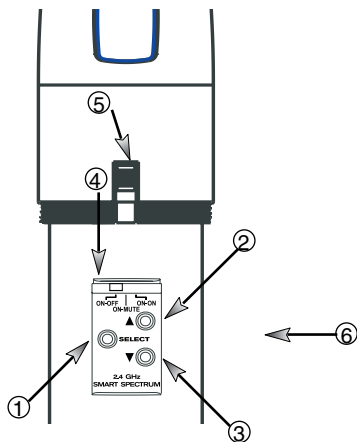
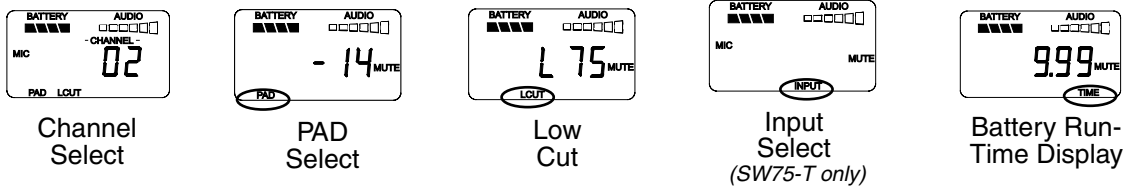

Fig. 4b SW-H series Handheld Control Setting Buttons
Fig. 4g
Your Sabine Smart Spectrum handheld microphone and belt pack transmitter have many powerful features, all of which are easily monitored (using the transmitter LCD display) and adjusted. The controls and displays for both handheld and belt pack transmitters are almost identical in function, though positioning differs (compare figures 4b & 4c). The LCD display and one control switch are located on the exterior of the transmitters. A more powerful set of recessed controls is located under the hinged access panel, to prevent accidental or inappropriate alteration of settings.
When the transmitter is first turned on, it shows an initial test screen (Fig. 4f), followed by the default screen (Fig. 4g). The LCD also reverts to this default display within a few seconds after any programming changes are made with the recessed controls. The default LCD display always shows transmission channel, audio level, and battery voltage level; additional information will appear to indicate important changes caused either by user adjustments, or automatically as transmitter status changes.
PARAMETER VALUE: In default mode this indicates the RF TRANSMISSION CHANNEL chosen for the transmitter. In conjunction with the Select button (see figures 4b & 4c), this field will also display battery run-time hours, or when a low frequency roll-off filter or an attenuation (pad) is active (see Fig. 4g).
(See Fig. 4b, 4f & 4g)
1. All transmitters report two types of battery status information. The first report is the all-important voltage the battery is supplying. Second, you'll know how long the battery has been in use (battery run time hours). Each receiver channel also receives telemetry information from its associated transmitter, regarding the battery voltage, and displays the information in the receiver LCD (see figure 5b). When the voltage reaches a level indicating an estimated 30 remaining minutes of useful battery life, both transmitter and receiver automatically flash warnings in their LCD displays. As an alternative means of anticipating battery depletion, you can check the number of hours of use, by checking the transmitter LCD display (see Section 4.2.2 and figure 4g), or the Remote Control Software.